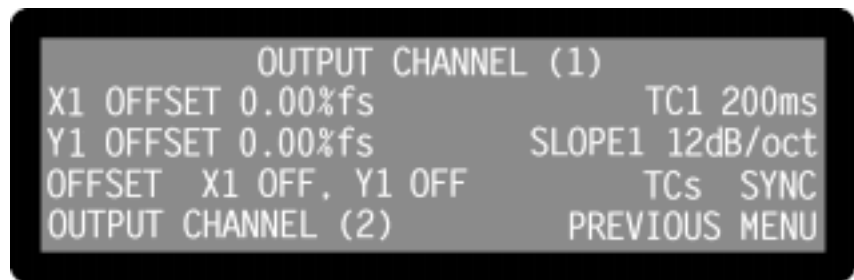

Figure 5-51, Output Channel (1) Menu
When in dual harmonic mode, pressing a key adjacent to the Output Channels item on the Main Menu accesses the Output Channel (1) menu, shown in figure 5-51.